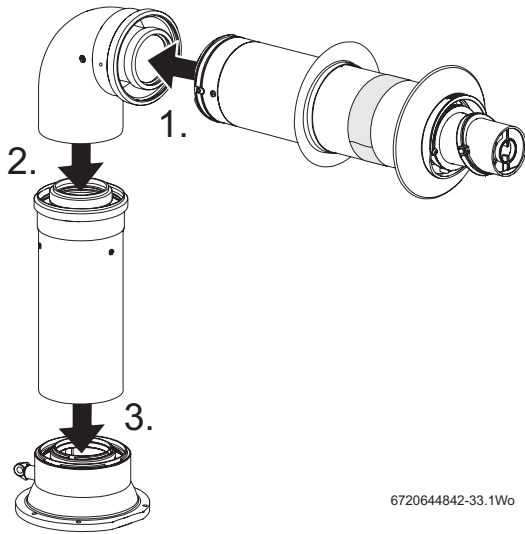

Fig. 16 Assembling the extensions
1. Referring to figure 16, fit the telescopic flue firmly into the 90° bend.